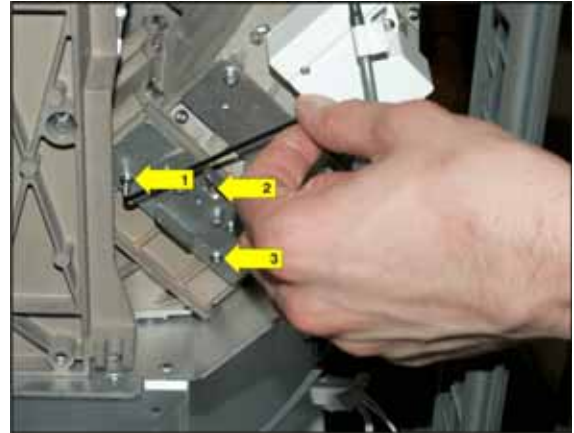

Figure 5-76 Remove YNF
3. Use a 2mm hex key to remove the three hex screws securing the YNF to the IOS (**Figure 5-76**). If necessary, loosen the center nut.